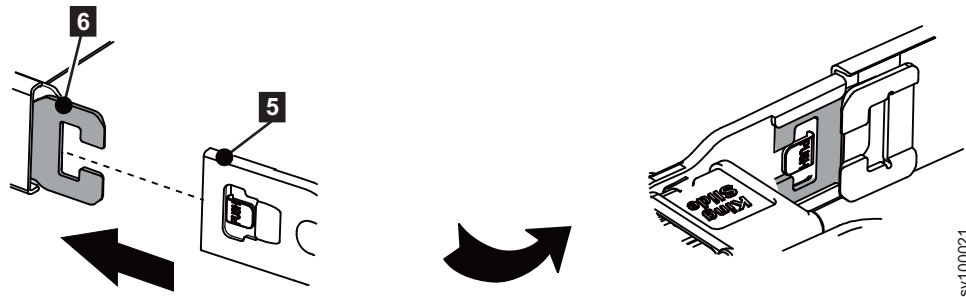

Figure 19. Install the other outer member
4. Install the opposite cable-management arm connector (**5**) to the opposite outer cable-management arm connector base (**6**). Refer to Figure 19.